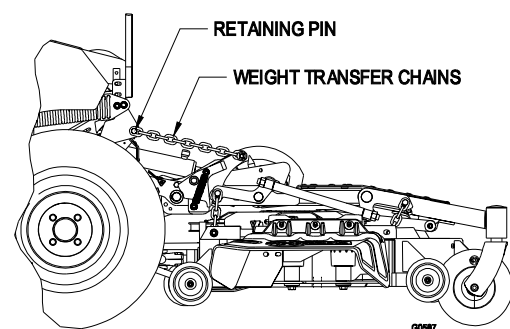

FIGURE 4
- 3.1.10 Retract the cylinder to fold the deck upward. Reattach weight transfer chains. It is very important not to twist the chains. Lock the chains onto the pin by inserting the cotter hairpin. (See Figure 4)